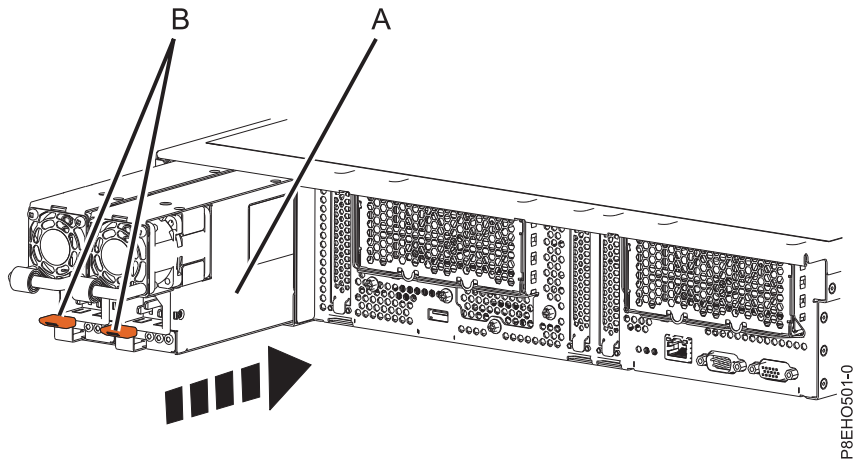

Figure 53. Replacing a power supply in the system
2. Align the power supply (A) with the bay and slide the power supply into the system until the terracotta latch (B) locks in place. See Figure 53.